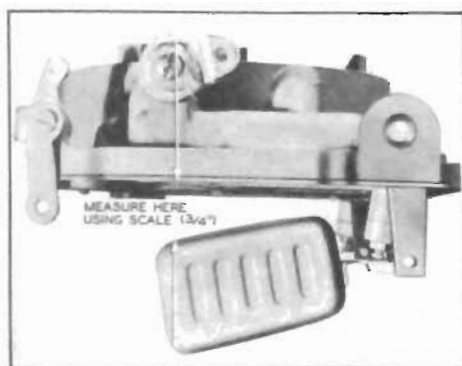

Figure 3-52—Checking Float Drop
11. Adjust Float Drop. With air horn held in upright position, measure vertical distance from air horn gasket to outer end of each float using a scale. Bend float arm tang as required to obtain 3/4" measurement. See Figure 3-52.